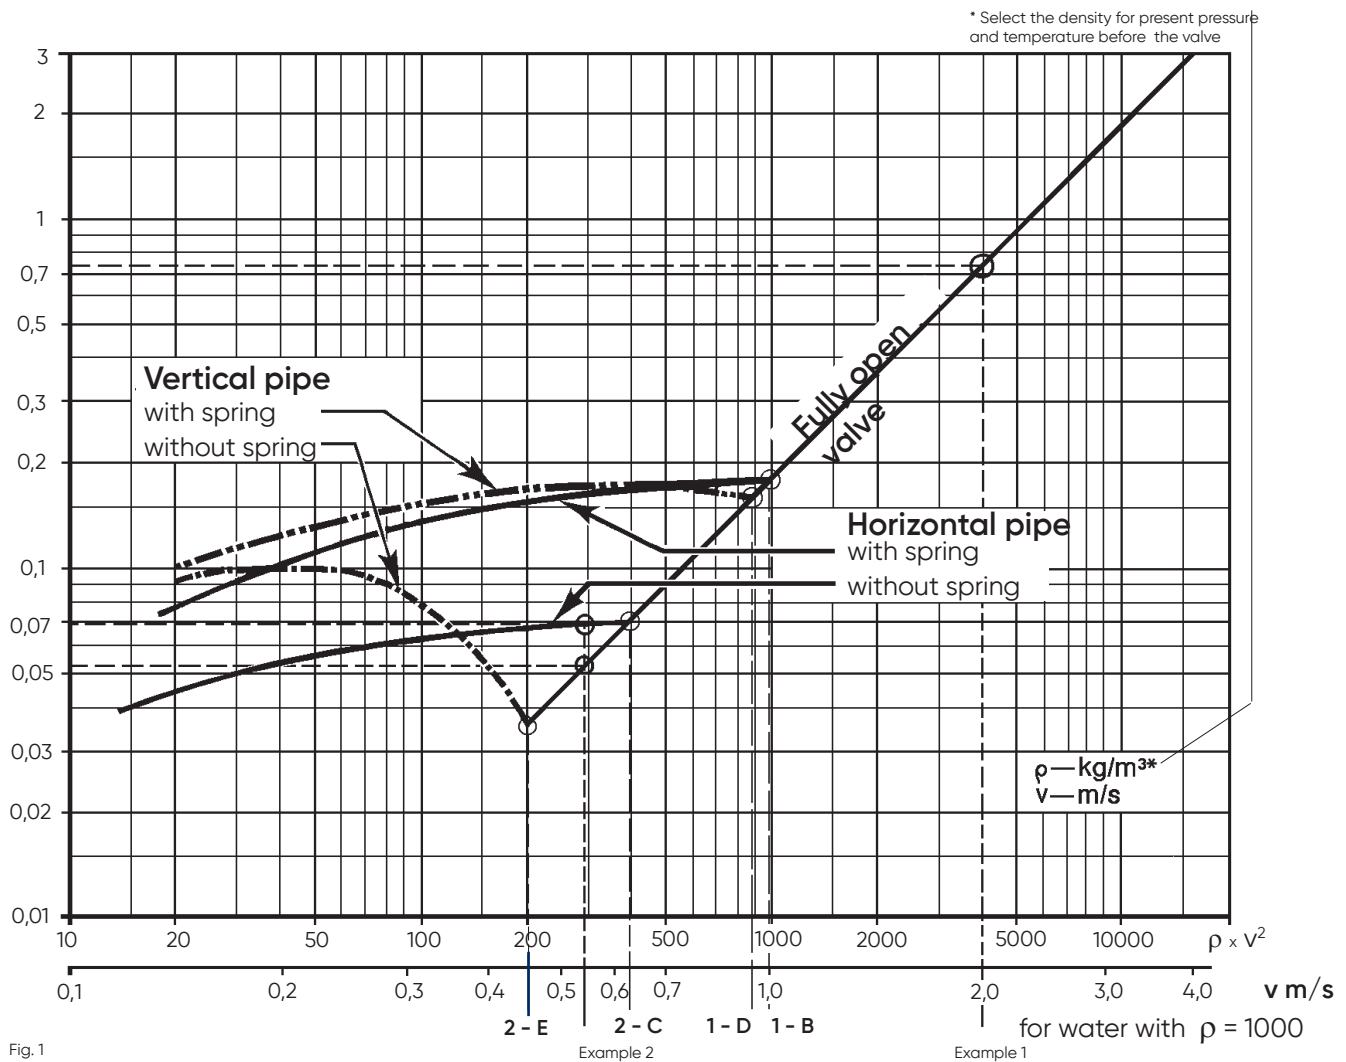

Fig. 1
The dynamic opening force on the disc depends on density of the medium and flow velocity in the pipe. Use the diagram in fig. 1. Set the value of  $\rho x v^2$  on the horizontal axis and check the curves.
The curves in fig. 1 represent sizes up to DN 250. The pressure drop is lower for larger sizes. Reduce the diagram pressure drop values with following factors:
**A.** Before the valve is fully open, the pressure drop across it exceeds the value shown - see fig. 1.
- 2.** Low-pressure gases. The opening dynamic force is affected by density. Make certain that velocity and density are adequate to open the valve – fig. 1.